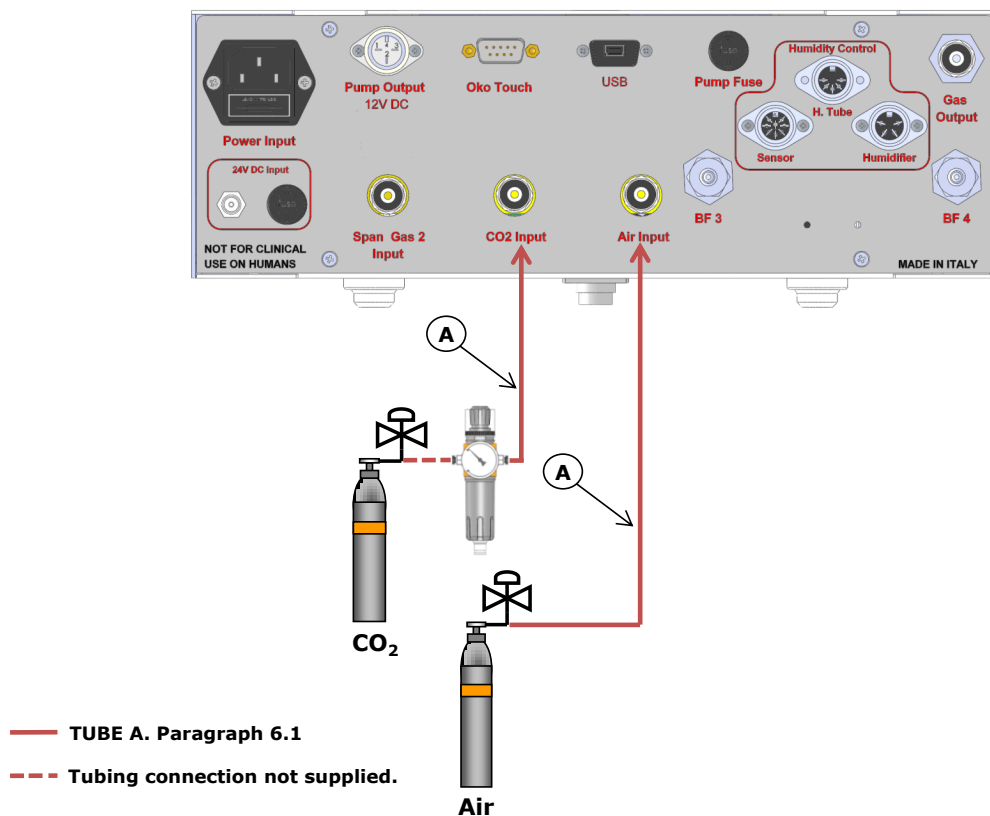

Figure 9: CO₂ and Air Tanks connections to the back panel of the CO₂ Controller.
3. Figure 9 shows the connections between the CO₂ and Air tanks and the respective connectors on the rear panel of the CO₂-UNIT-BL.